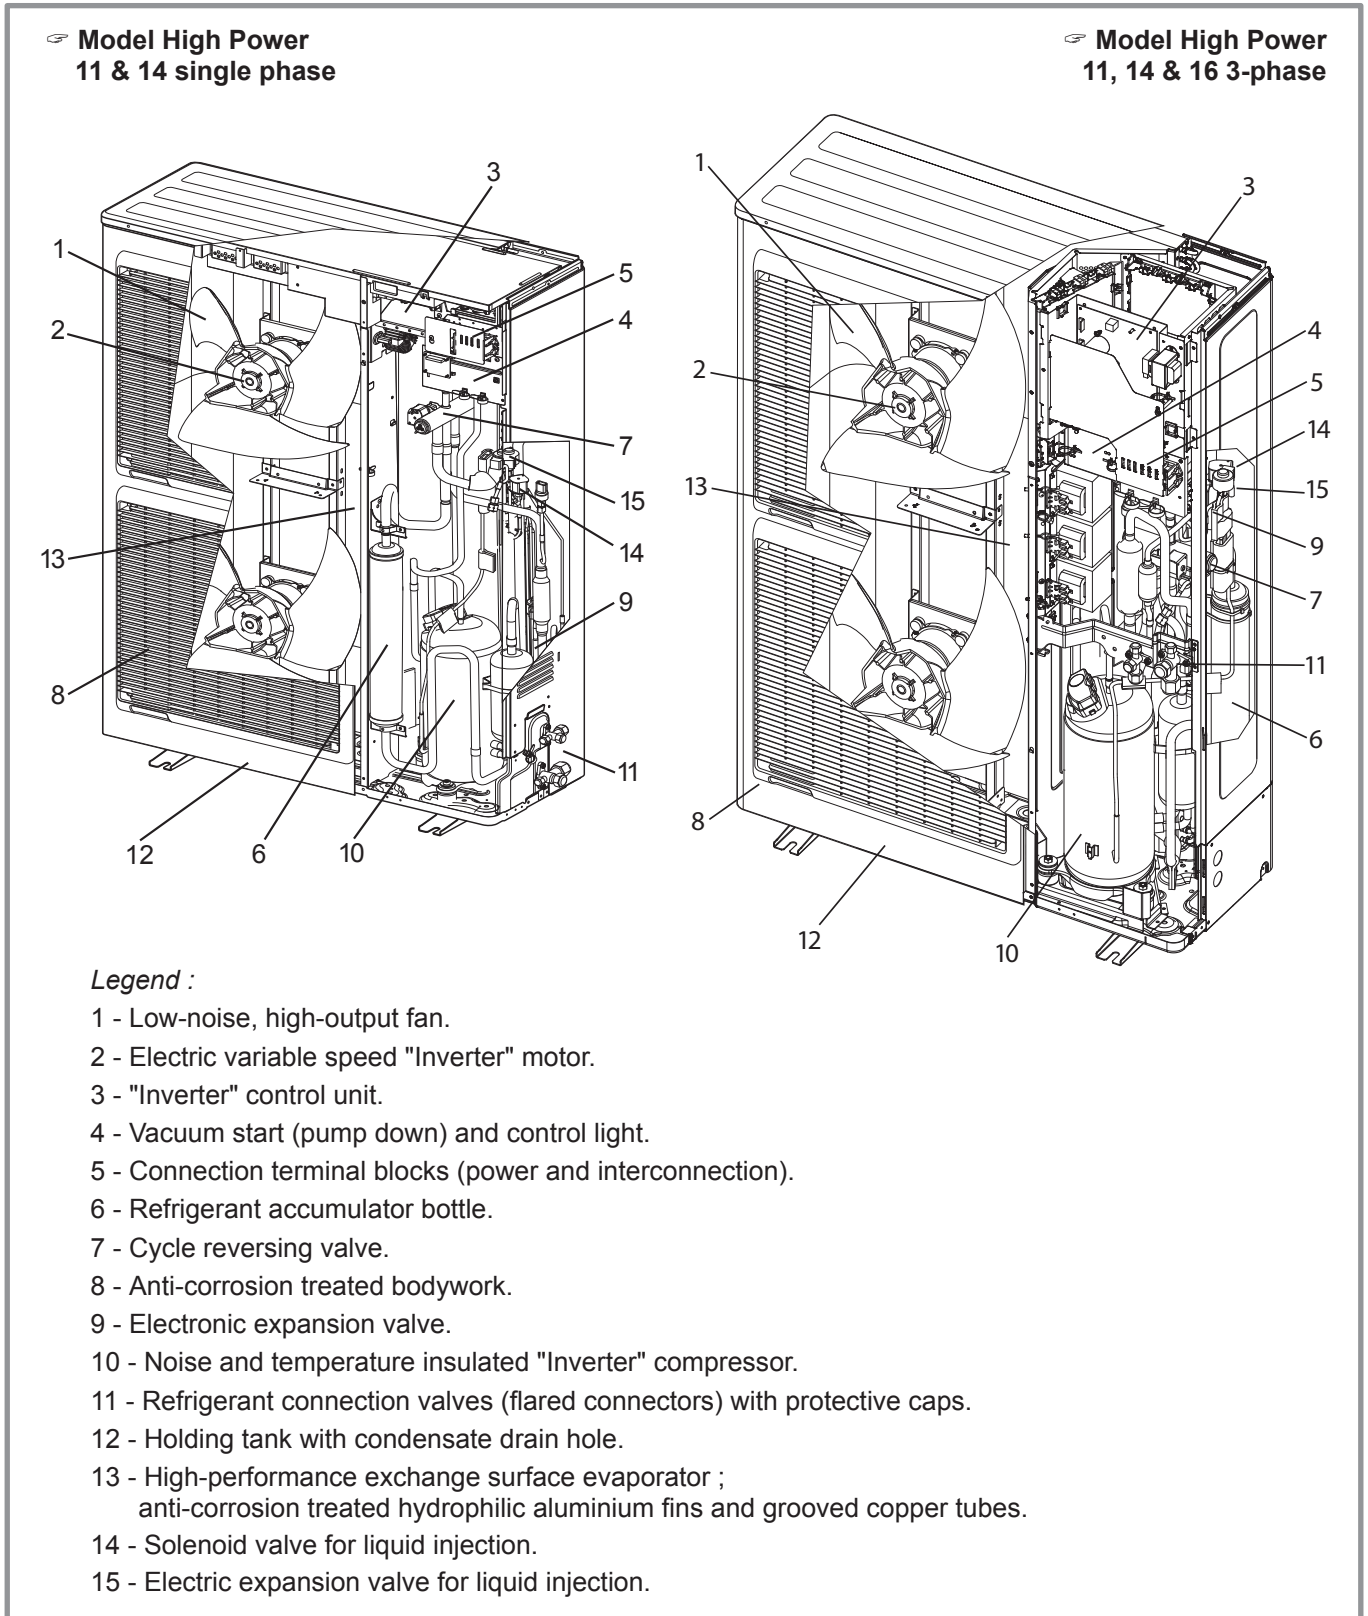

figure 6 - Outdoor unit components
- In the evaporator (ref. 13, figure 6, page 9) :
- In the compressor (ref. 10, figure 6, page 9) :
- In the expansion valve (ref. 9, figure 6, page 9) :